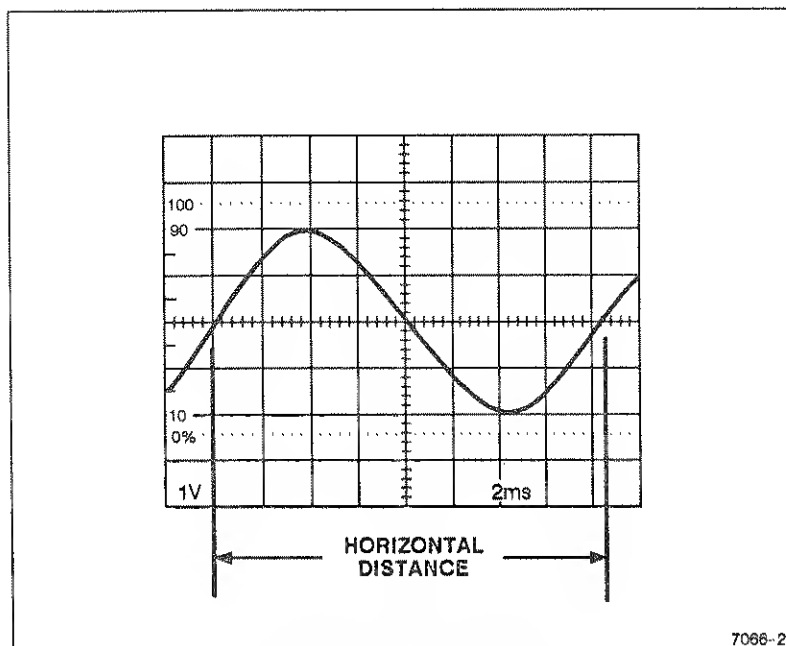

Figure 6-5. Time Duration.
5. Position the display to place the time-measurement points on the center horizontal graticule line (see Figure 6-5).
EXAMPLE: The distance between the time-measurement points is 8.3 divisions (see Figure 6-5), and the A SEC/DIV switch is set to 2 ms. The X10 Magnifier switch is pushed in (1X magnification).
EXAMPLE: The signal in Figure 6-5 has a time duration of 16.6 ms.